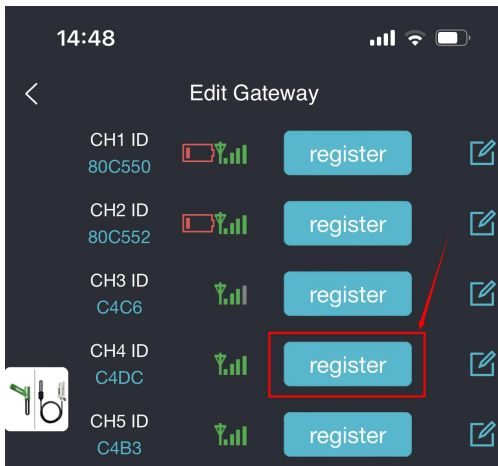

Figure 8
4. Click Re-register on the Sensor ID page, like the Figure 8.